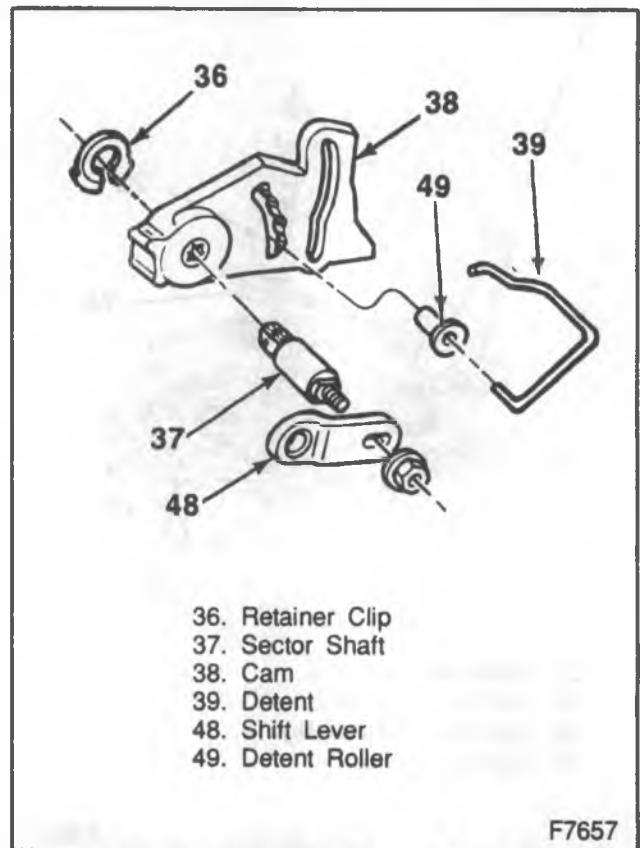
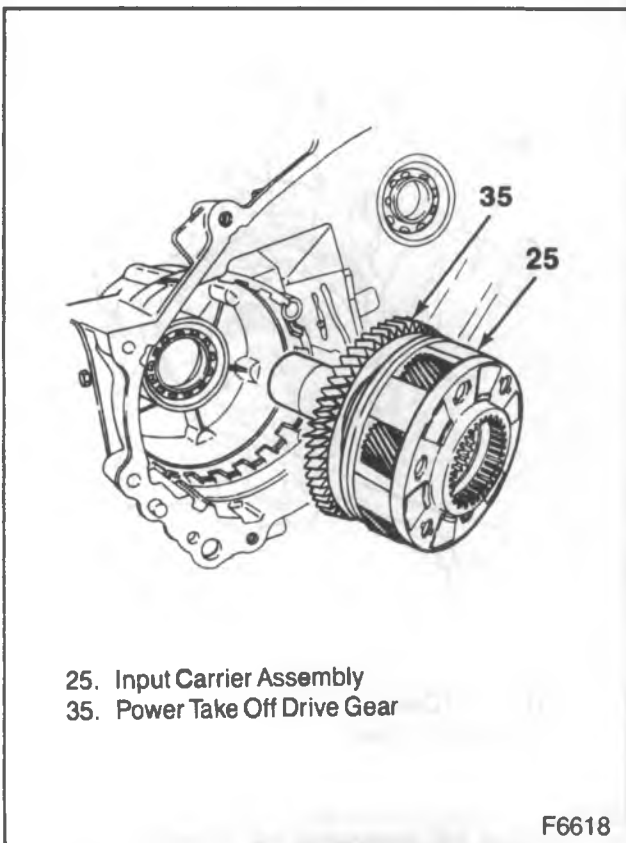
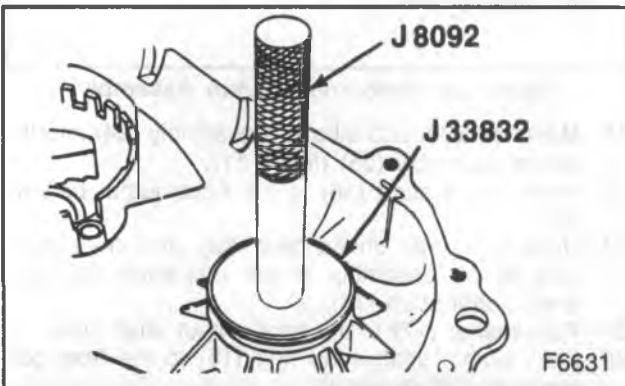
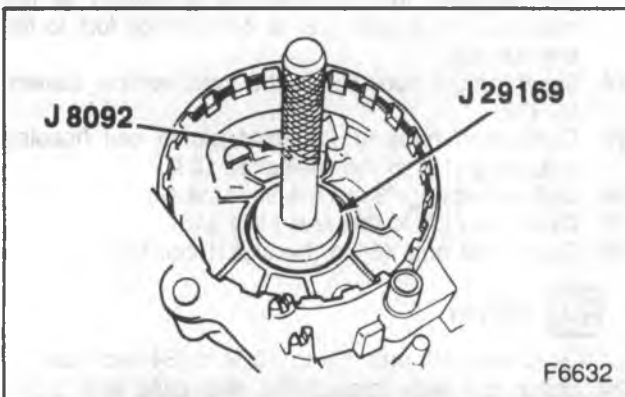

Figure 17—Sector and Shaft Assembly
Figure 16—Input Carrier and PTO Gear
Figure 25—Installing the Front Output Bearing
Figure 26—Installing the Front Input Bearing
1. Rear output shaft seal (47) to the rear bearing retainer (50) using J 37668.
2. Front output bearing (22) to the front case (31) using J 8092 and J 33832 (figure 25).
3. Front output bearing snap ring (40) to the front case (31).
4. Front output shaft seal (42) to the front case (31) using J 37668.
5. Rear output bearing (45) to the rear case (46) using J 8092 and J 33832.
6. Front input bearing snap ring (44) to the front case (31) using J 8092 and J 29169 (figure 26).
7. Front input bearing snap ring (43) to the front case (31).
8. Sector (38) detent spring (39) and detent roller (49) to the front case (31) (figure 17).
9. Sector shaft (37) through the case and align with spline on the sector (38).
10. Retainer clip (36) to the sector shaft (37).
11. Power take off drive gear (35) and the input carrier assembly (25) to the front case (31) (figure 16).